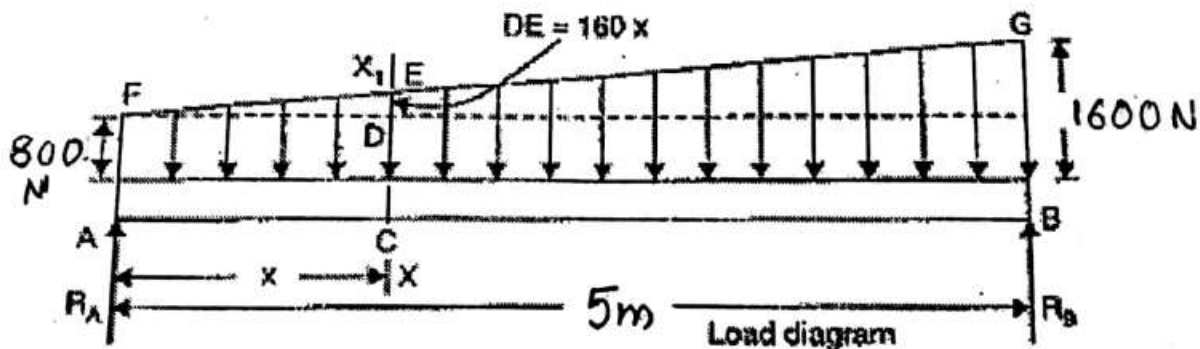

Fig. 1
- Q.2 A simply supported beam of length 5m, carries uniformly increasing load of 800 N/m run at one end to 1600 N/m run at the other end as shown in the fig.1. Draw the Shear Force and Bending Moment diagram for the beam. Also find the position and magnitude of the maximum bending moment. 15